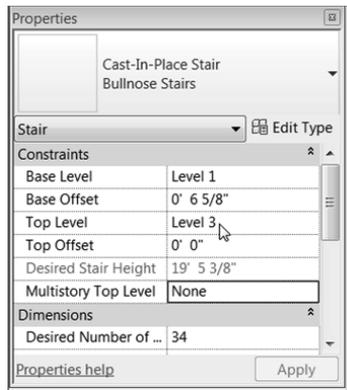

FIGURE 10.61: The Base Offset value is set to 6 5/8" (152 mm).
2. Set Base Offset to **6 5/8" (152 mm)**, as shown in Figure 10.61.